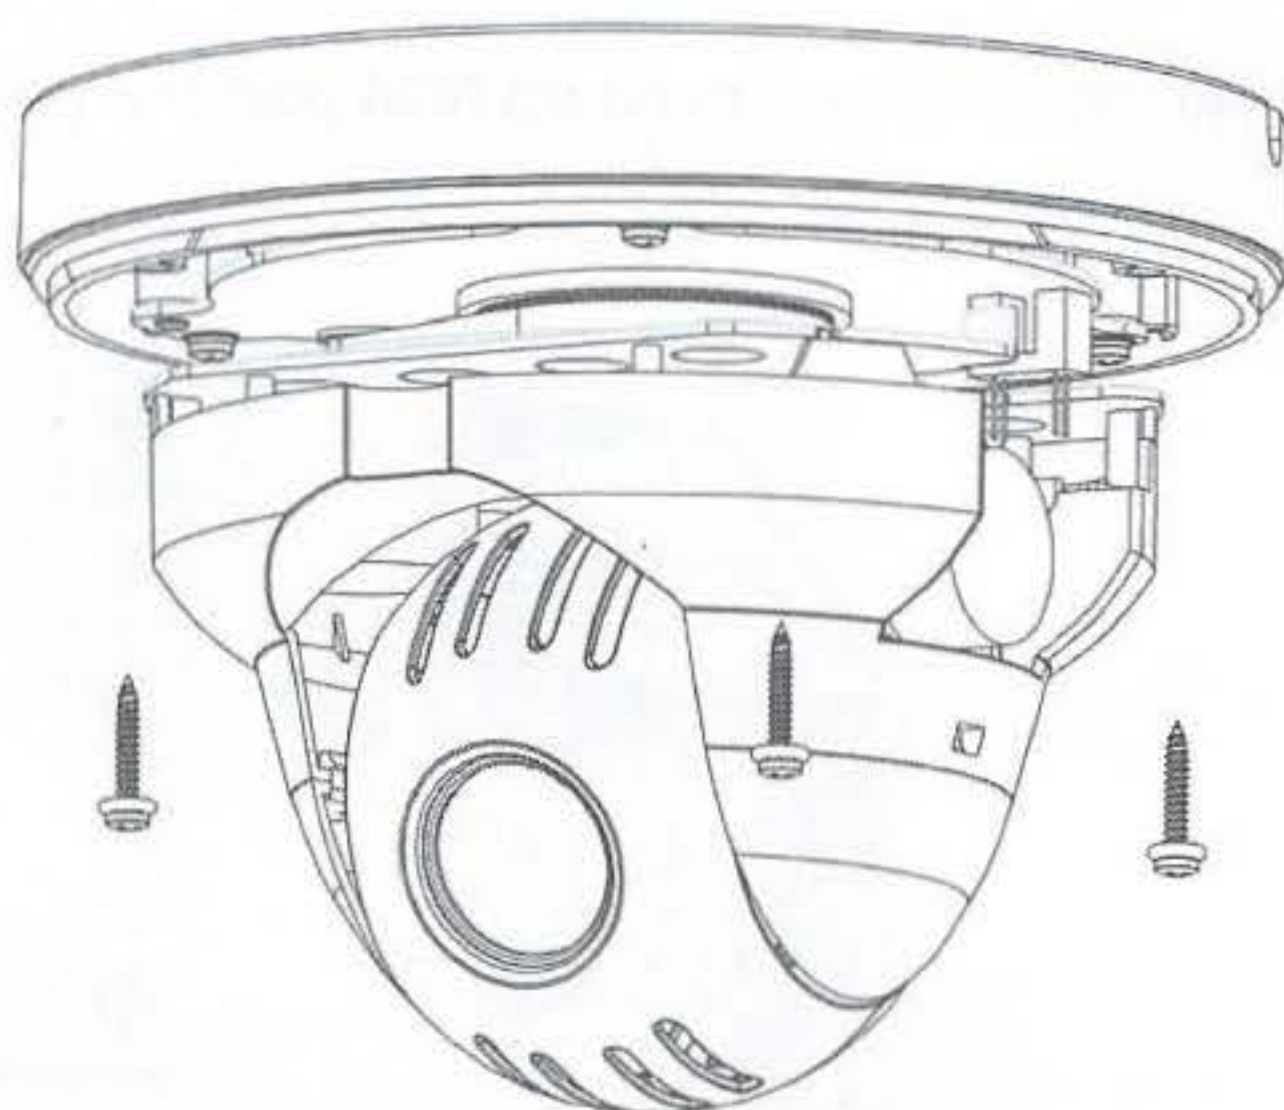

Figure 3-2
3) In Figure 3-2, pull the cable according to your cable exit mode. And then use four screws to secure the pedestal and driver of the ceiling speed dome on the ceiling. Turn the screws to the plastic expansion bolts.